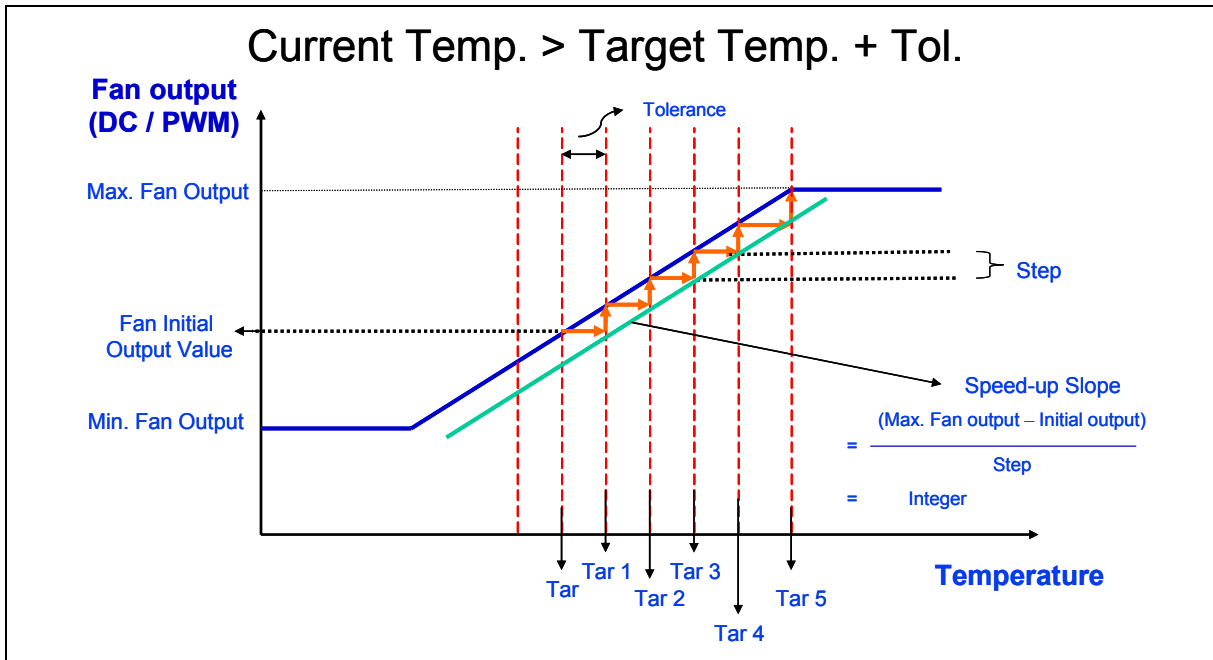

Figure 6.10
- (2) In the case that currently measured temperature goes beyond (Target Temperature + Temperature Tolerance), which is shown in Figure 6.10, fan speed jumps up to the next step. "Step" here refers to the value in the CPUFANOUT Output Value Select Register, Bank0 Index03h or Index61h.
- (3) Meanwhile, original Target Temperature dynamically shifts to (Target Temperature + Temperature Tolerance), and new Target Temperature, named Target Temperature 1, is formed. In other words, Target Temperature 1 equals original Target Temperature plus Temperature Tolerance.
- (4) If the currently measured temperature is within the (Target Temperature 1  $\pm$  Temperature Tolerance) then, the fan speed remains constant. Otherwise, fan speed jumps up to the next step again. Target Temperature then dynamically shifts to (Target Temperature 1 + Temperature Tolerance), and new Target Temperature again, named Target Temperature 2, is formed.
- (5) The fan-speed-up and Target Temperature comparison-then-shift process continue until currently measured temperature locates within (Target Temperature X  $\pm$  Temperature Tolerance), or fan output speed reaches its maximum speed.
- (6) Please be noted that “Speed-up Slope” shown in the Figure 6.10 must be an integer. In other words,  $\frac{Max.FanOutput - InitialOutput}{Steps}$  must be an integer; otherwise, it may lead to register overflow.